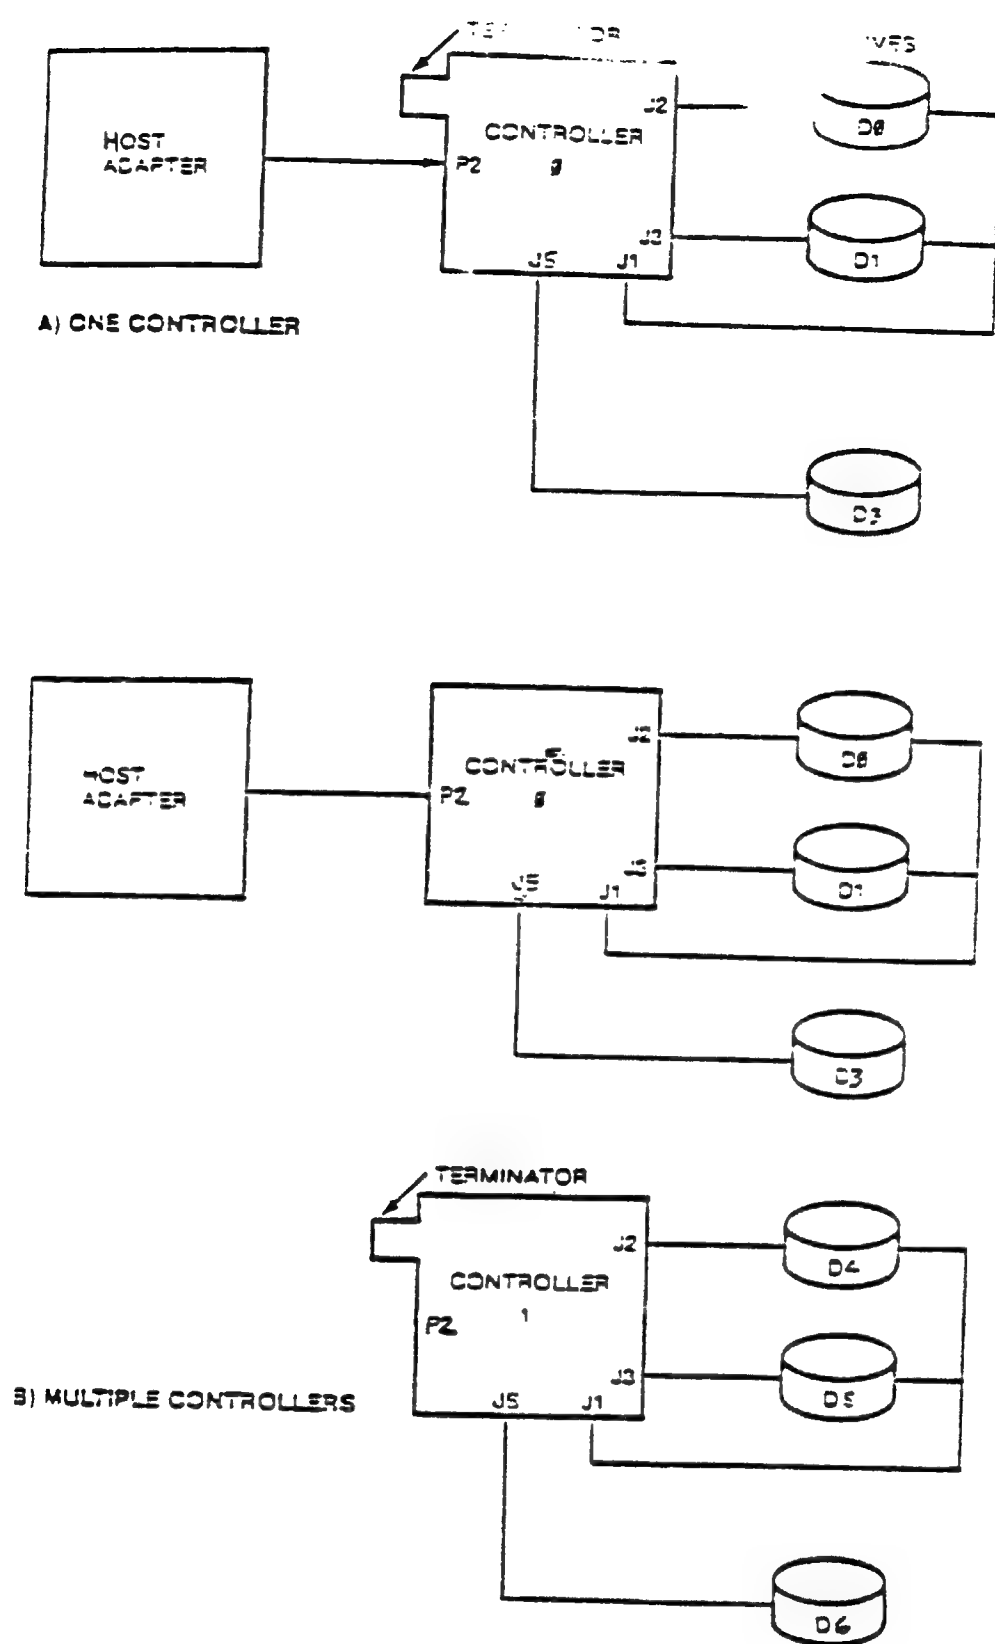

FIGURE 3-2 OPERATING SETUPS
A separate Controller is required for each additional pair of drives. Figure 3-2 shows two operating setups: (A) using one controller and (B) using two controllers. Notice the terminator (resistor pack) in both drawings. The terminator is at position 7D on the board in a socket near Pin 1 on connector P2; when multiple controllers are used, the terminator must be installed only in the last board in the daisy chain.